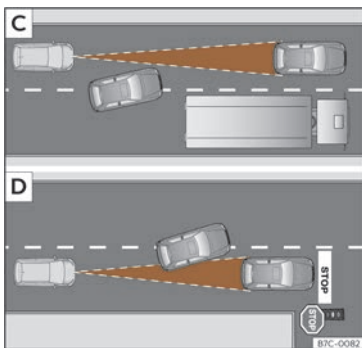

Fig. 133 C] Vehicle changing lanes. D] One vehicle turning and another stationary.
- Vehicles that move into your lane, a short distance from your vehicle >>> **Fig. 133 C**.
The ACC may not react to stationary vehicles. If, for example, a vehicle detected by the ACC turns or moves over and there is a stationary vehicle in front of it, the ACC will not react to the second vehicle >>> **Fig. 133 D**.